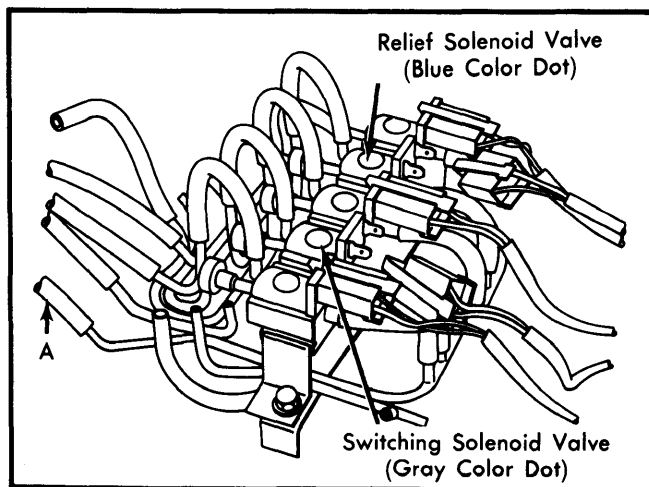

Fig. 1 Testing No. 1 Anti-Afterburn Valve
2) Start engine and run at idle. Place finger over air pump-to-air control hose. Air should not be drawn in and idle speed should not change. Disconnect vacuum hose "A" shown in Fig. 1; idle speed should drop. Reconnect vacuum hose "A"; speed should return to normal idle. If valve does not respond as outlined, replace No. 1 anti-afterburn valve.